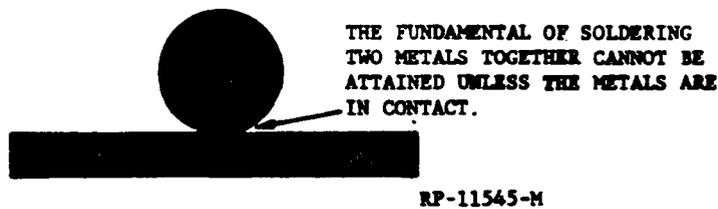

FIG. 4 CROSS SECTION OF POSITION OF CONNECTED WIRE ON TERMINAL (PAR 6.3.1)
6.3.1 Connect wires so that the bare portion will have as large a contact surface as practicable with soldering surface of the terminal and rest firmly against it throughout, as shown in Figure 4.